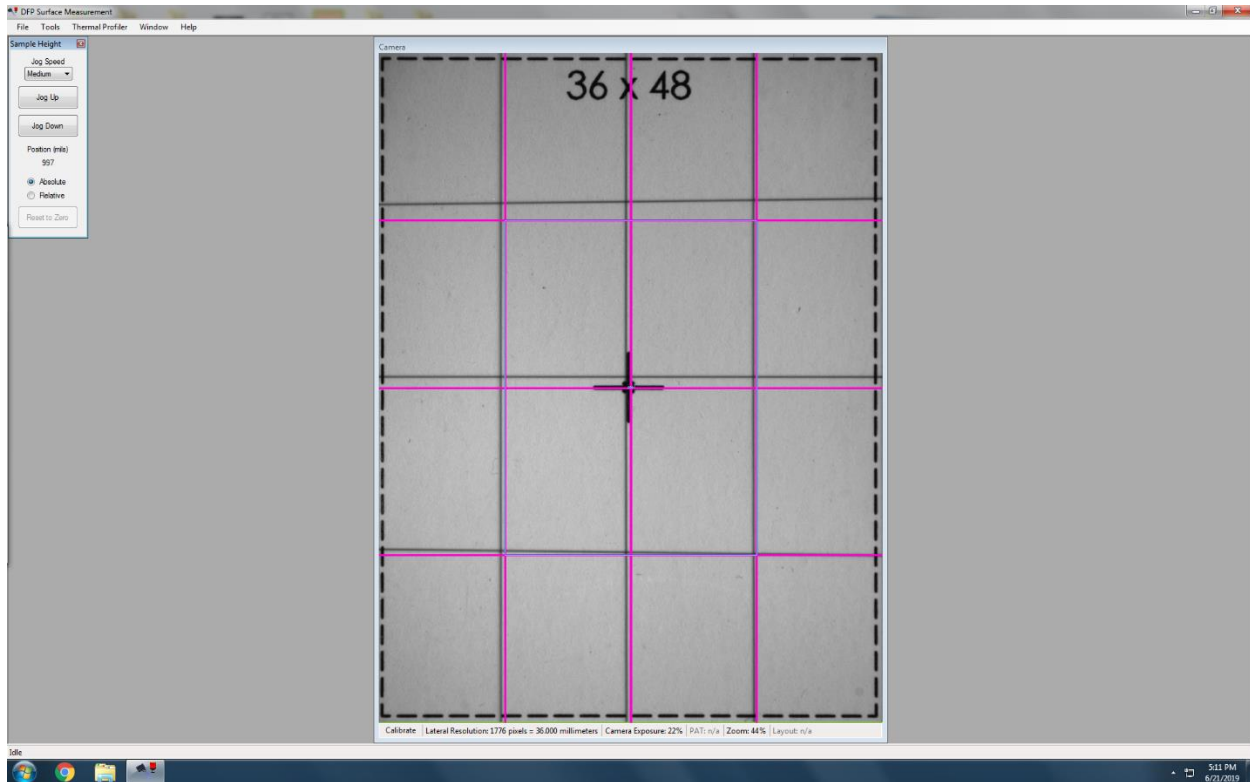

Figure 3.2 Projector and Software Crosshair Alignment
2. Jog the flat up or down to ensure that the vertical lines from the projector crosshairs line up with the camera view crosshairs as closely as possible. This ensures the block is in the middle of the depth of field. See **Figure 3.2**.